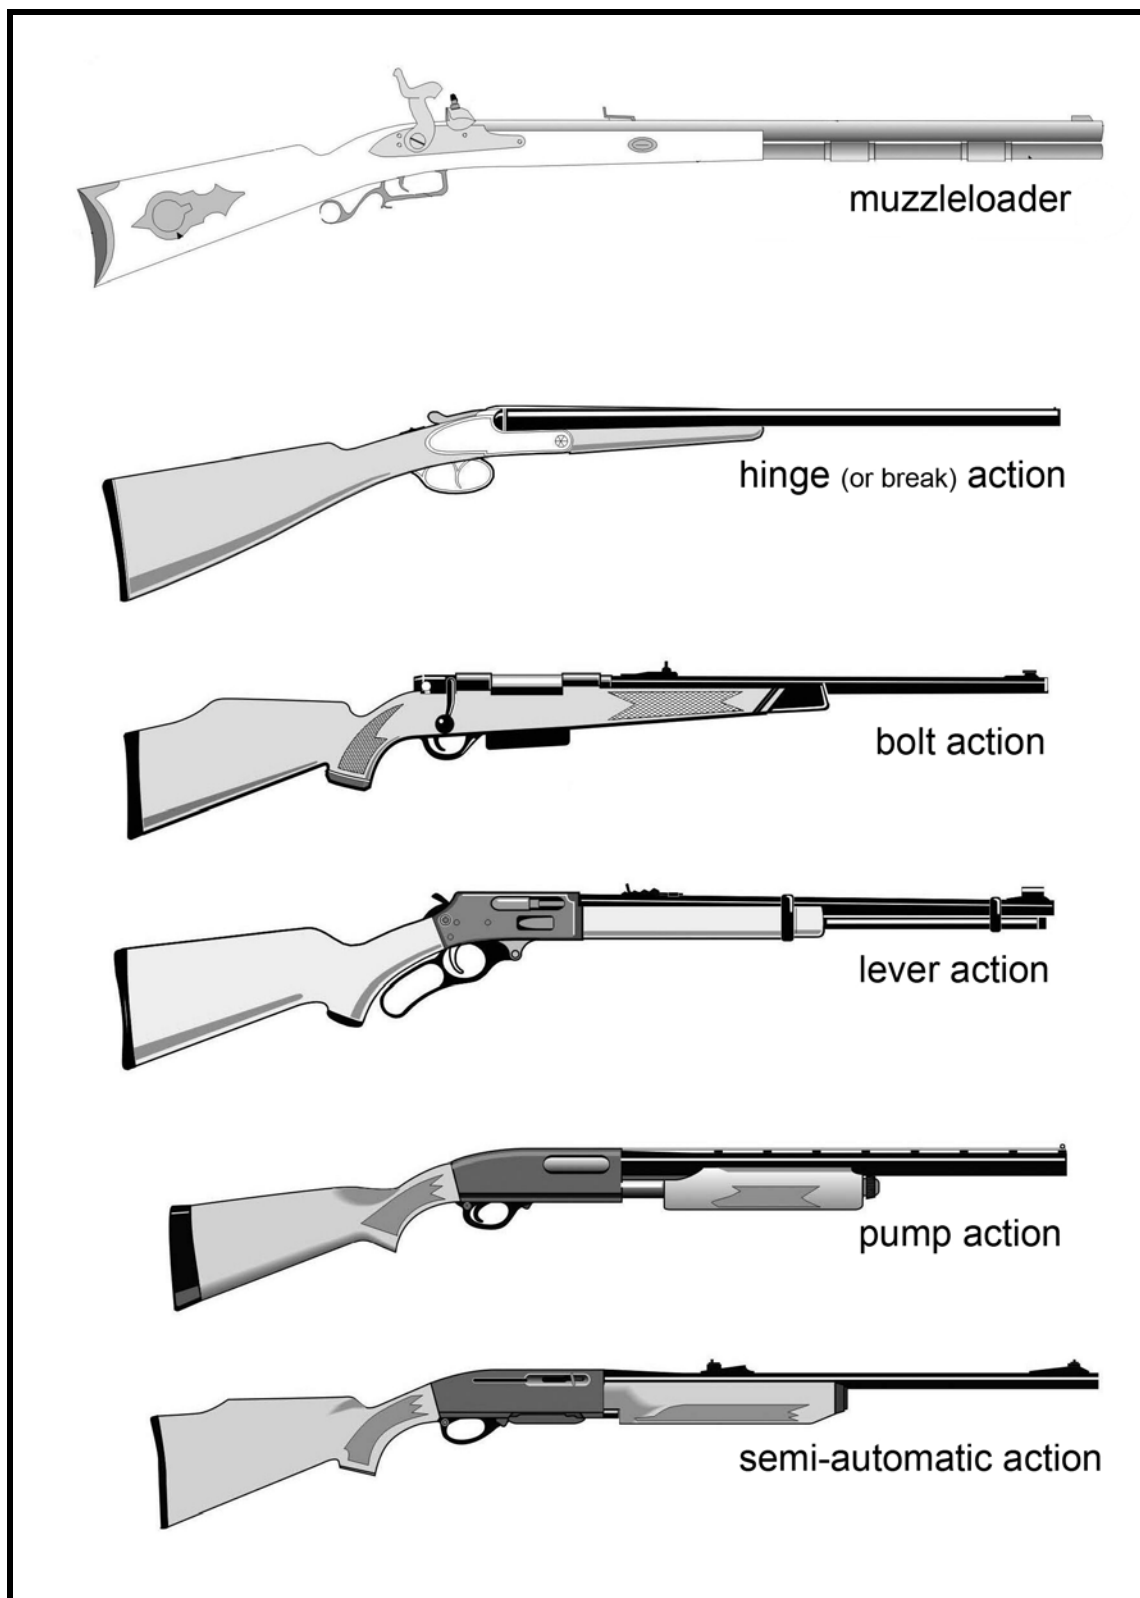

Figure 15. Action types
- c. The basic types of modern actions (Figure 15) used in these firearms are as follows: